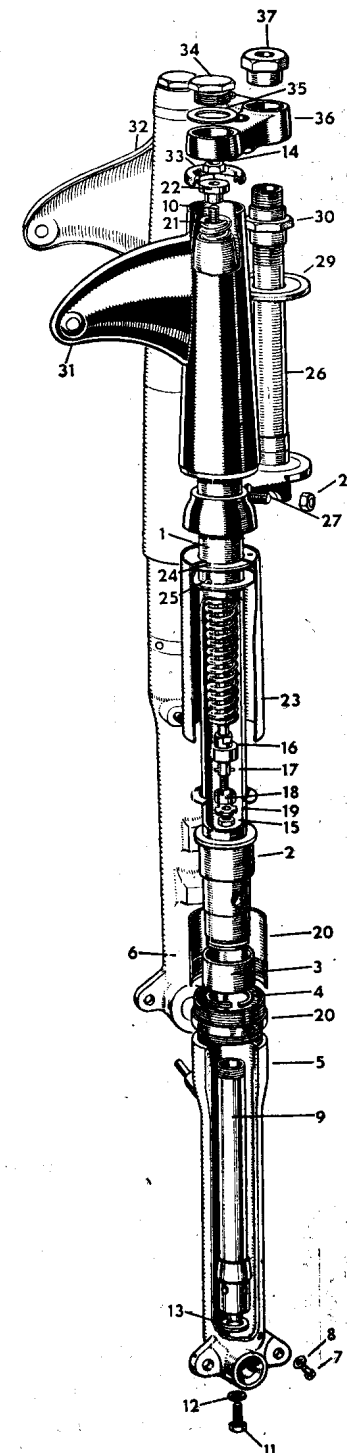

Fig. 2
Use one of the grades of oil, S.A.E. 20 as shown in the table of lubricants. The normal oil content is five fluid ozs. (142 c.c.). Attention is only necessary at the first 1,000 miles and again at 10,000 miles when the oil should be changed by draining. An exploded drawing of the front forks is shown in Fig. 2, from which it will readily be seen that the fork springs abut against the filler plugs (34), before removing these plugs weight must be taken off the front wheel, by placing the machine on its central stand to avoid the forks collapsing.
The damper tube with the fork spring can be extracted from the tube. To dismantle further, take off nut securing fork spring, unscrew the damper tubecap (16) with a tommy bar through the holes in the damper tube, for if this is held in a vice it will distort and become useless. The damper assembly sequence is clearly depicted in Fig. 2.